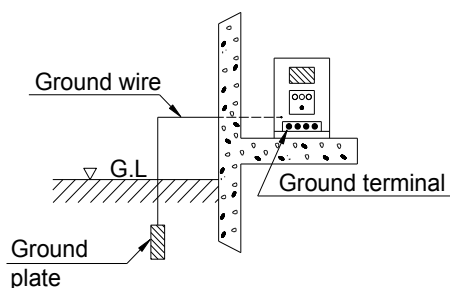

Fig. 14
4.2 Grounding (Fig. 14 and Table 2)